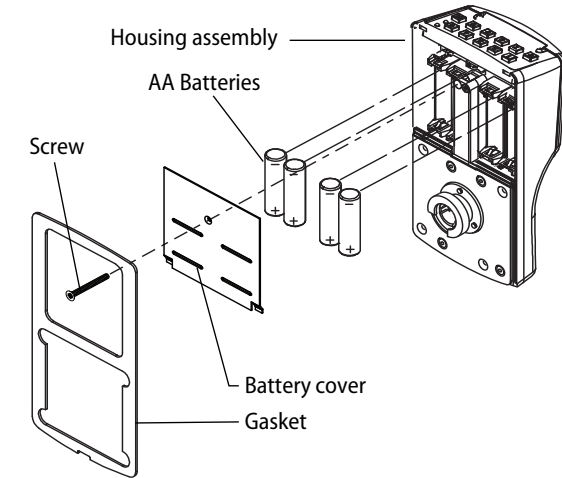

Figure 6 Installing batteries
- 1 Remove the gasket and battery cover from the rear of the housing assembly as shown in Figure 6.
- 4 Replace the battery cover. See Figure 6. Make sure that the tabs on the lower edge of the battery cover are hooked over the edge of the back plate and secure the cover with the screw.
- 5 Replace the gasket. See Figure 6. Make sure that it is inside the edge of the housing.